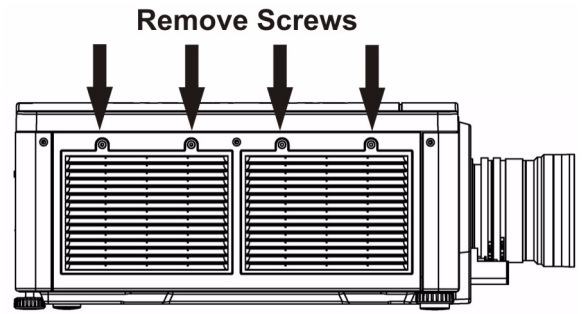

FIGURE 5-1 - REPLACE FILTER
1. Unscrew the 2 captive screws at the top of each filter door (Figure 5-1). Allow the door to rest down and away from the projector.
1. Unscrew the 2 captive screws at the top of each filter door (Figure 5-1). Allow the door to rest down, away from the projector.